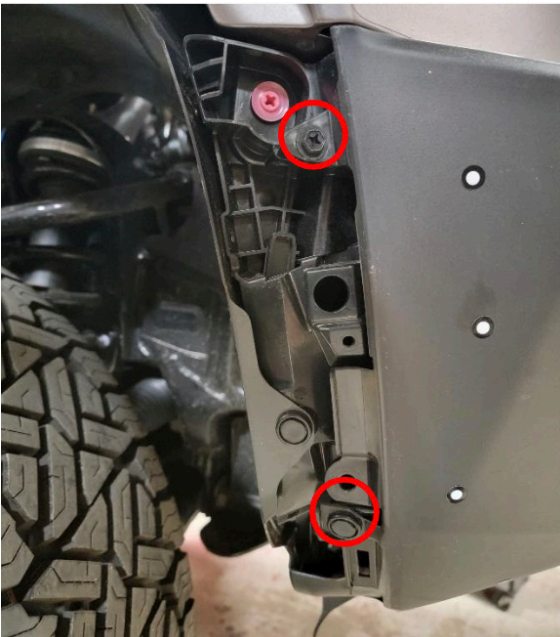

Figure 9.
8. Using a 10mm socket wrench and panel pry tool, remove the one (1) screw and one (1) push pin from underneath the fender flare to loosen the bumper. Figure 9.